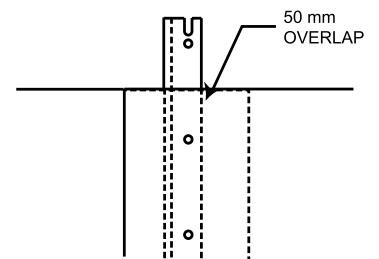

FIG. 5
9. Stand the second panel and place its narrower end into the wider end of the first panel overlapping the second panel by 50 mm (Fig. 5).